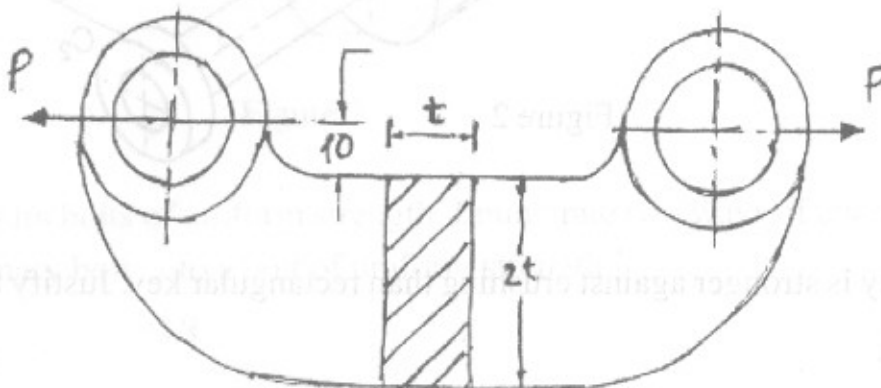

Figure 1
2. a) An offset link subjected to a force of 25 kN is shown in figure 1. It is made of gray cast iron FG 300 and the factor of safety is 3. Determine the dimensions of the cross-section of the link. 8